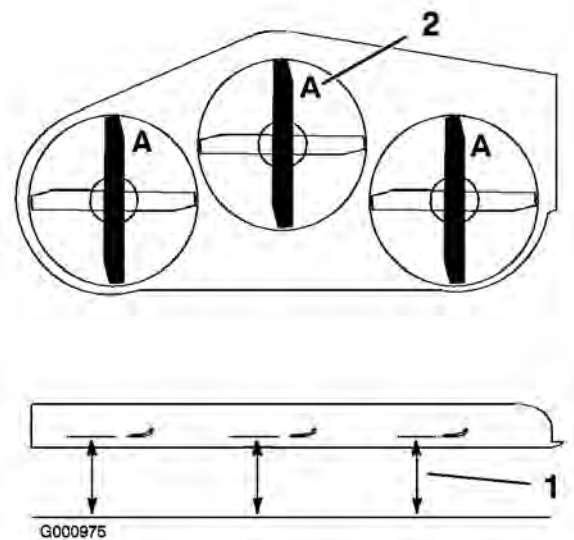

Figure 79
3. With the machine on level surface, position one blade front-to-rear. Measure at **A** and from level surface to the cutting edge of the blade tips (Figure 79).